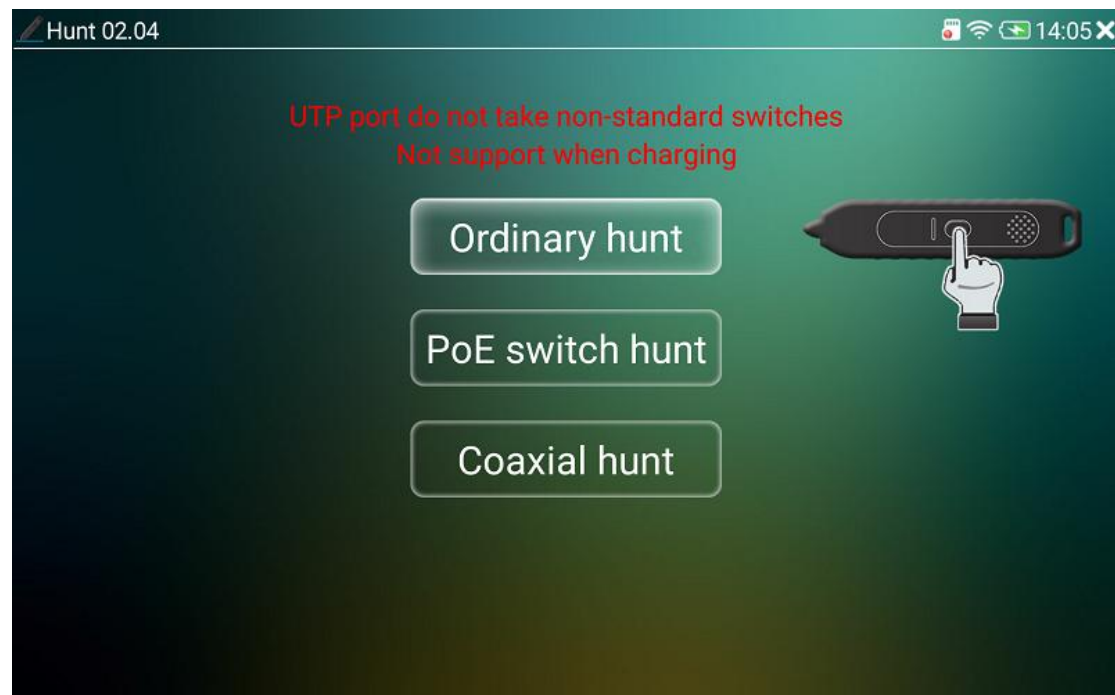

Figure 49
1) The cable tracker supports normal network cable tracking, PoE switch cable tracking, coaxial cable tracking 3 different signal modes, can be applied on electrified or loaded wire, completely no noise, anti-jamming, signal receiver sensitivity is adjustable, support max 1000m, as shown in Figure 49, 49-1.